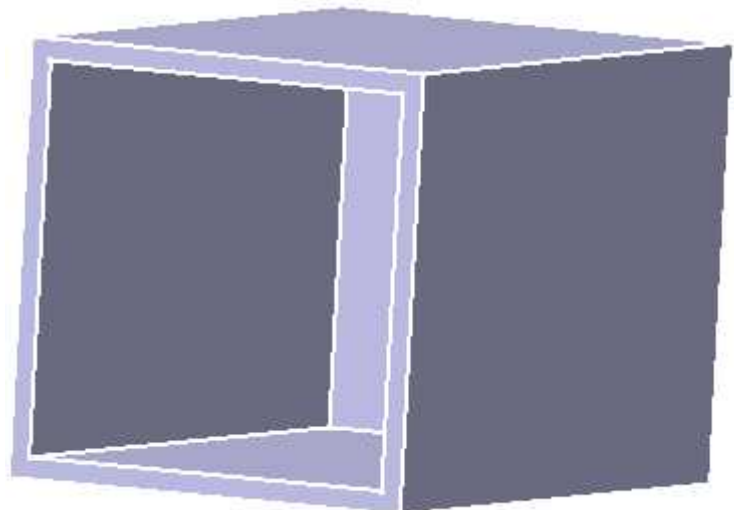

Figure 1.10 Motor Box
- *Motor Box*: which carry the servomotor and its driver, it is fabricated from light metal, it positioned on the link (see figure 1.10).